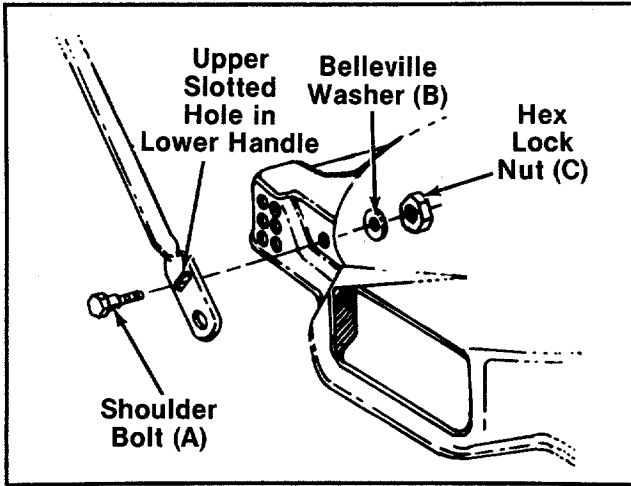

FIGURE 3.
- A. Line up the upper slotted hole in lower handle with the mounting hole on deck. Place shoulder bolt (A) through lower handle and deck. See figure 3. Place belleville washer (B) on the shoulder bolt, with the cupped side of the washer against the deck. Secure with hex lock nut (C).